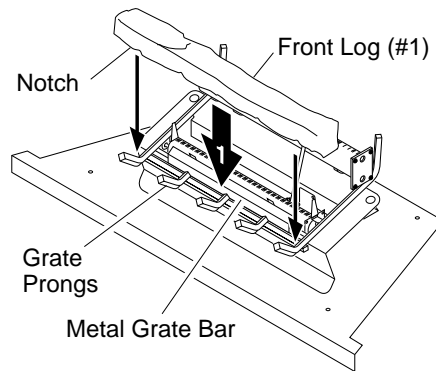

Figure 22 - Installing Front Log (#1)
1. Place front log (#1) on top of the grate. Make sure the notches in the bottom of the log fit over the grate prongs (see Figure 22). Push back of log flush with metal grate bar.